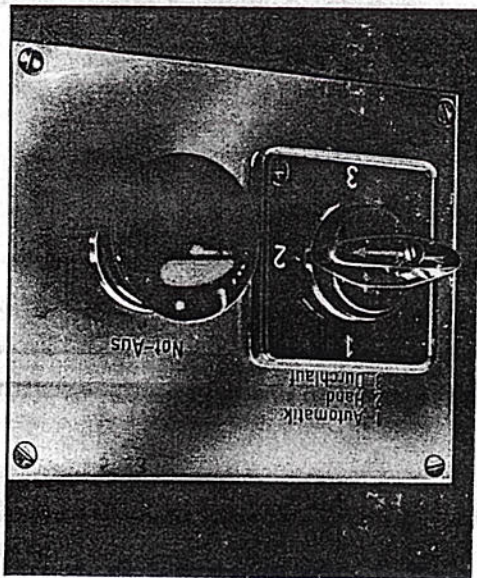

Fig. 4: Control Panel
- Fig. 4 Assembly Drawing: Bending Tools - Standard Equipment